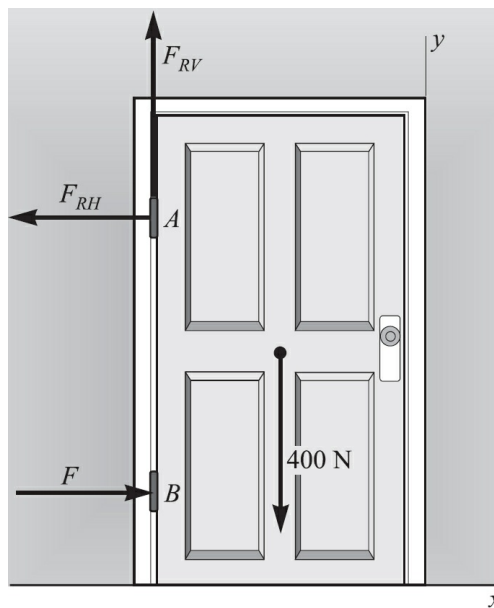

Fig. 5-10
- 5.9 [II]** As indicated in Fig. 5-10, hinges *A* and *B* hold a uniform, 400-N door in place. If the upper hinge happens to support the entire weight of the door, find the forces exerted on the door at both hinges. The width of the door is exactly $h/2$, where h is the distance between the hinges.
The forces acting on the door are shown in Fig. 5-10. Only a horizontal force acts at *B*, because the upper hinge is assumed to support the door's weight. Take torques about point-*A* as the axis of rotation: